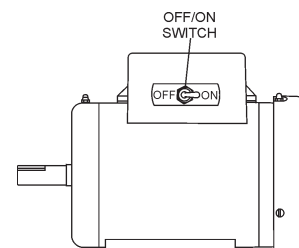

Figure 18. Electric Motor ON/OFF Switch (ON Position)
1. Set the electric motor's **ON/OFF** switch (Figure 18) to the **ON** position.